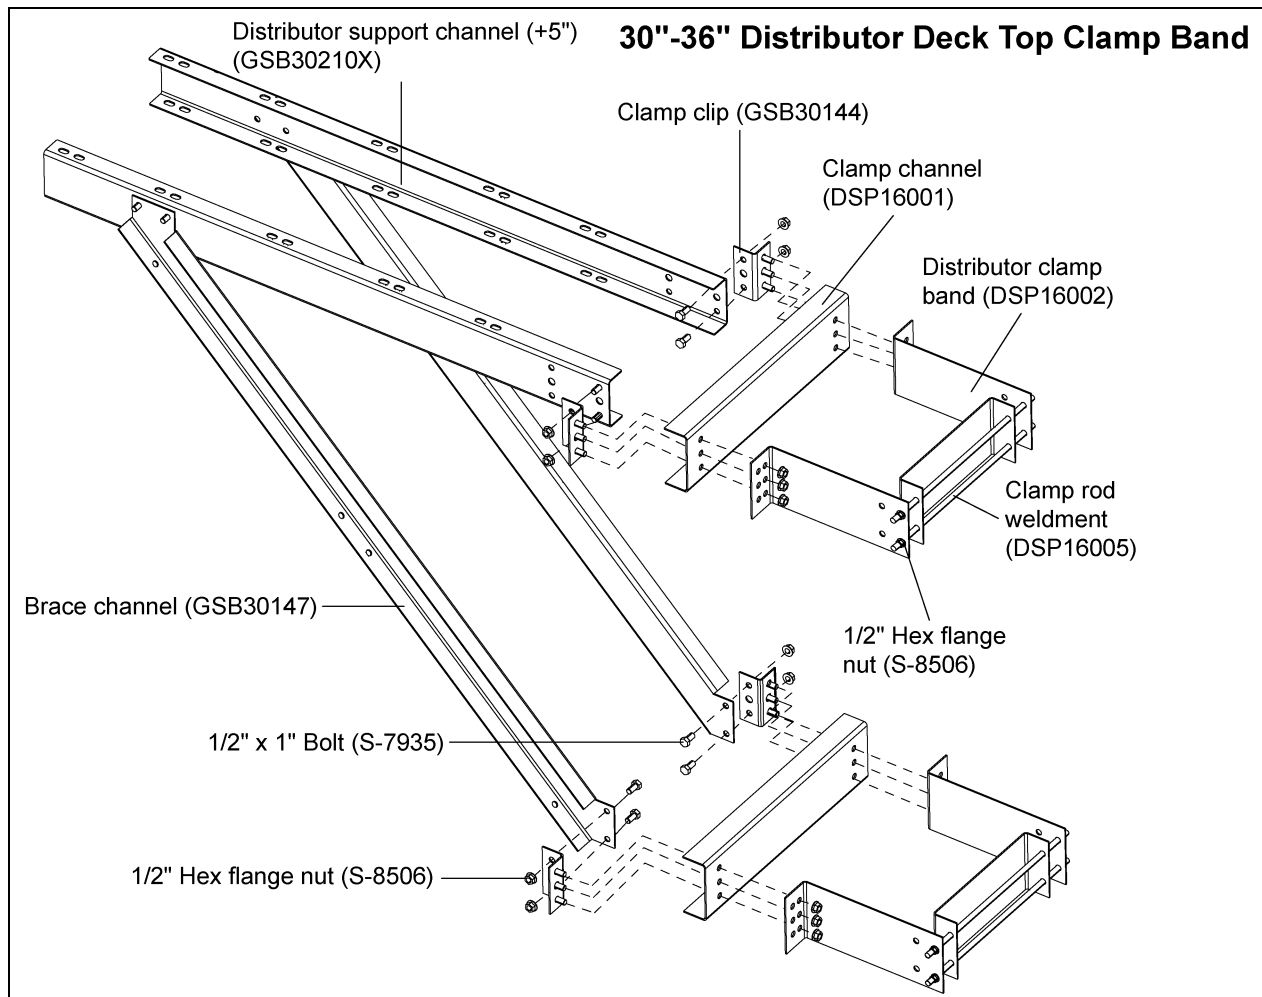

Figure 12A
1. Slide rods of clamp rod weldment into outside set of holes of clamp bands for both the top and bottom assemblies. Fasten together using four (4) 1/2" hex flange nuts per each clamp.
2. Assemble the top and bottom clamp band weldments, clamp channel and clamp clips at same time around the trunking. Place clamp rod weldment assembly around the trunking leg and line up holes on clamp channel and clamp clips with the **inside set of holes** on the clamp bands. Fasten all together using six (6) 1/2" x 1" bolts and nuts. (See Figure 12A.)
3. Line up the holes located at the end of the distributor support channels and brace channels with the holes on the clamp clips. Fasten together using four (4) 1/2" x 1" bolts and nuts.